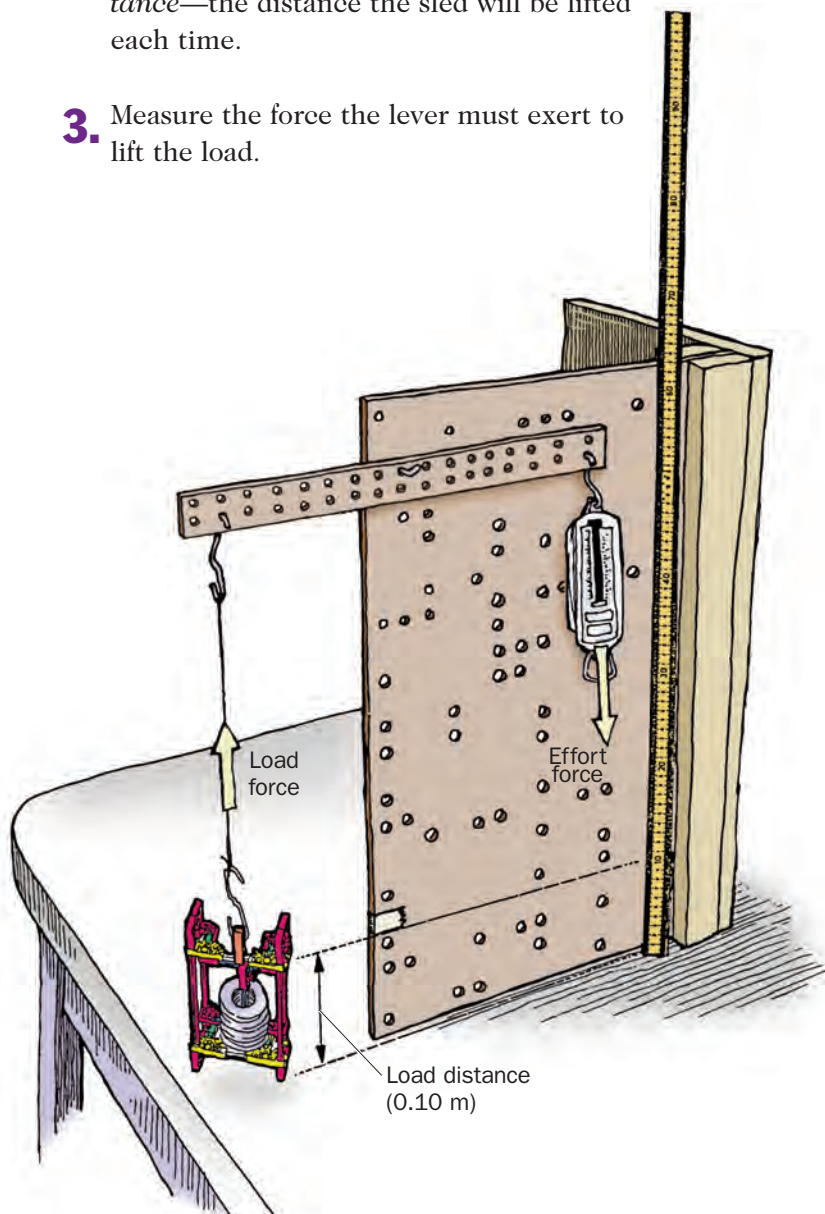

Figure 13.4 Setup for lifting the sled with the lever
1. In this inquiry, you will use a lever to raise your sled. Set up the pegboard assembly with lever, sled, spring scale, and meter-stick, as shown in Figure 13.4. The sled should be attached at the end of the lever. (Be sure to zero the spring scale when holding it upside-down since that is how it is used in this inquiry. If the scale has been calibrated right-side up and is then used upside-down, the results will be in error.) As you perform this inquiry, record your measurements on a student
2. Measure a distance from the tabletop to 0.10 m above the table on the edge of the pegboard where the sled is attached and place a piece of masking tape there (see Figure 13.4). This marks the *load distance*—the distance the sled will be lifted each time.